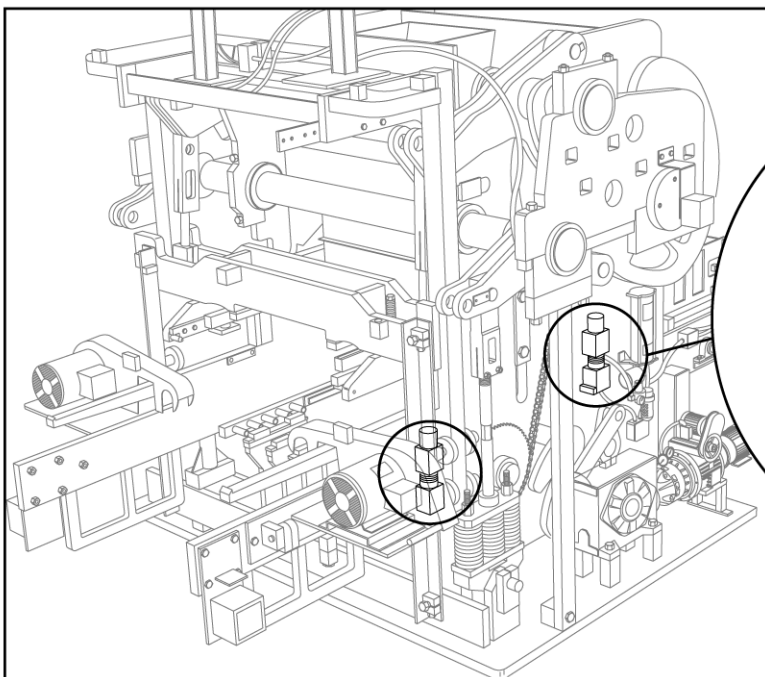

Figure 4.34 BOLTS AT ALL 4 CORNERS
- b. Loosen bolts at all 4 corners that secure mold throat assembly (See figure 4.34 and 4.35). Remove top spacers.